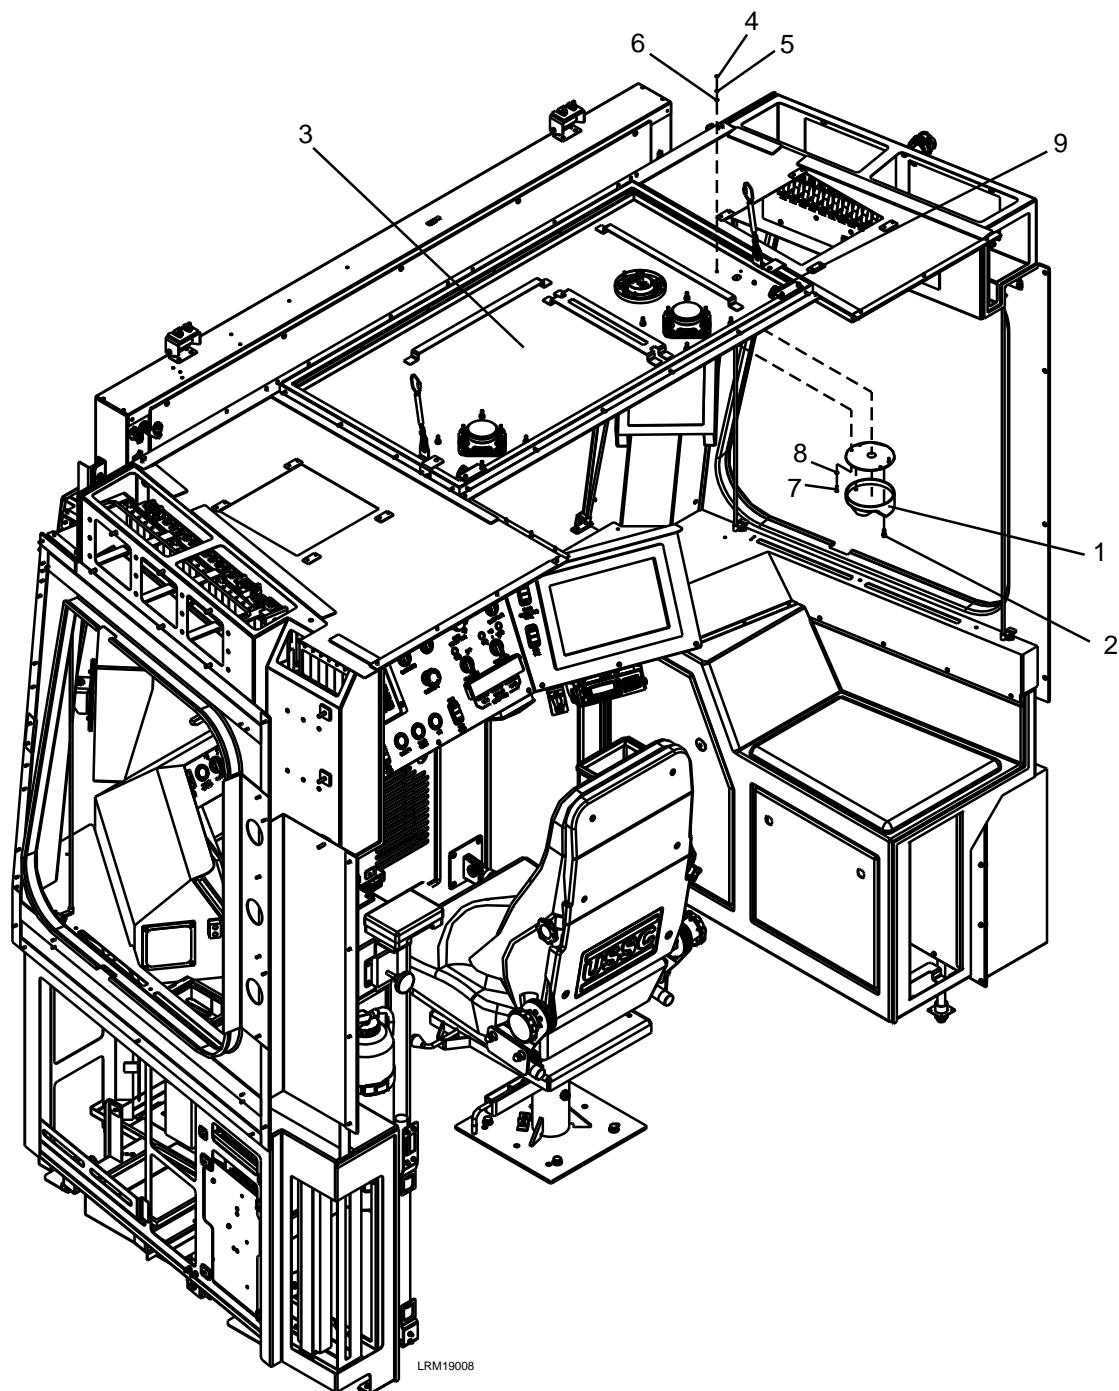

Figure 7-5: Cab Camera
1. Unlock the two locks (9) and lower the cab ceiling panel (3) to access the Cab Camera (1) and disconnect the electrical connection. See Figure 7-5.
2. Remove the two screws (2) from the camera housing.
4. Remove the two M3 nuts (4), M3 lock washers (5), M3 plain washers (6), M3 x 12 screws (7), and M3 plain washers (8).
5. Carefully remove the Cab Camera (1).
1. Unlock the two locks (9) and lower the cab ceiling panel (3) to access the Cab Camera mounting. See Figure 7-5.
2. Carefully install the Cab Camera (1) aligning the mounting holes.
3. Install the two M3 plain washers (8), M3 x 12 screws (7), M3 plain washers (6), M3 lock washers (5), and M3 nuts (4).
6. Install the two screws (2) to secure the camera housing.
7. Raise the cab ceiling panel (3) and secure.